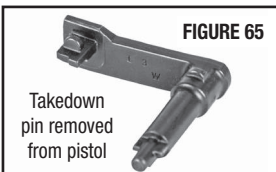

FIGURE 65
- FIGURES 65 and 66 show the takedown pin details.